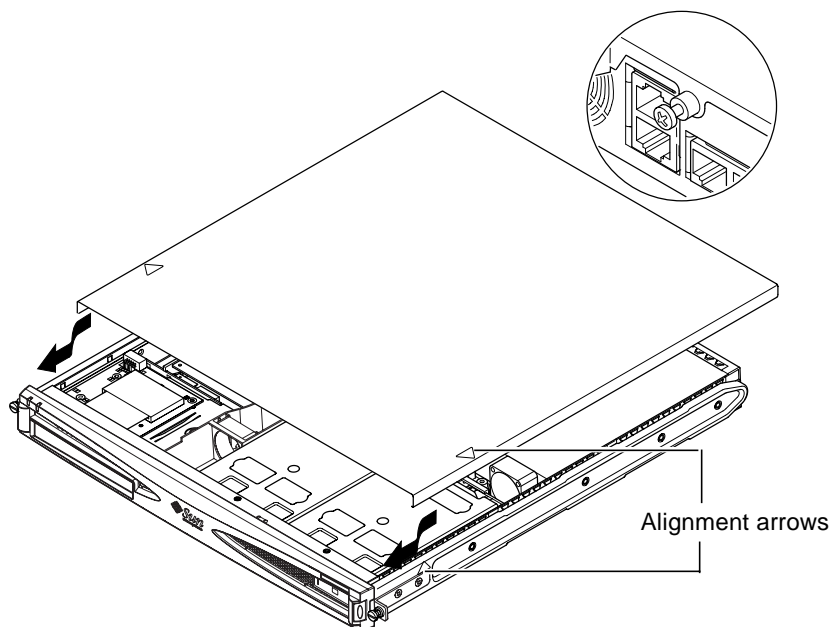

FIGURE 4-9 Replacing the Top Cover
7. **Replace the server's cover and tighten the captive screw (see FIGURE 4-9 in Section 4.7, "Replacing the Server's Top Cover" on page 4-14).**
5. **Replace the server cover and tighten the captive screw (see FIGURE 4-9 in Section 4.7, “Replacing the Server’s Top Cover” on page 4-14).**
3. Replace the server's cover and tighten the captive screw (see FIGURE 4-9 in Section 4.7, "Replacing the Server's Top Cover" on page 4-14).
8. Replace the server's cover and tighten the captive screw (see FIGURE 4-9 in Section 4.7, "Replacing the Server's Top Cover" on page 4-14).
7. **Replace the server cover and tighten the captive screw (see FIGURE 4-9 in Section 4.7, “Replacing the Server’s Top Cover” on page 4-14).**
3. **Tighten the captive retaining screw at the rear (see FIGURE 4-9).**